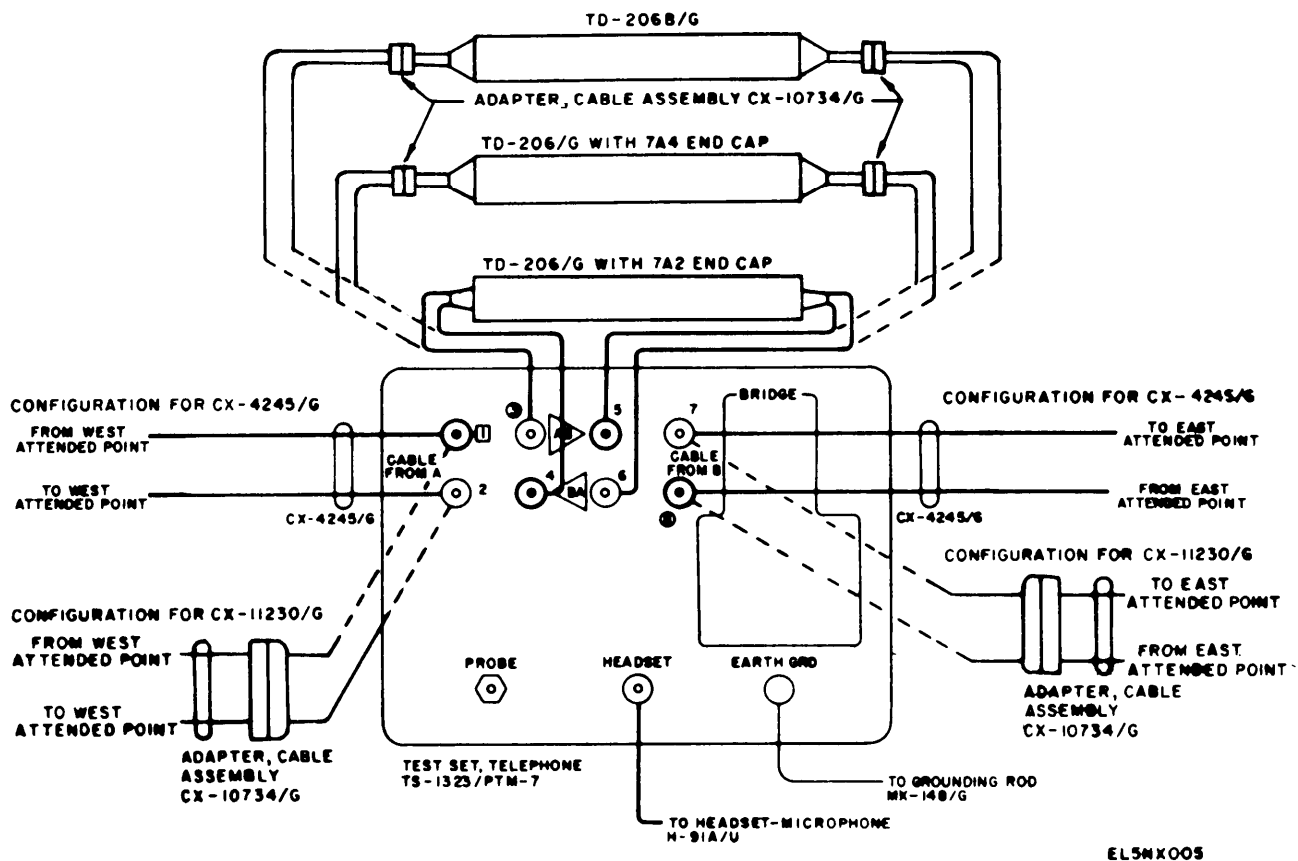

Figure 3-6. Normal connections for order-wire circuit operation and TD-206/G tests.
(2) To connect the TS1323/PTM-7 for order-wire operation at a TD-206/G location, connect the TD-206/G and the two CX-4245/G's to the TS-1323/PTM-7 as shown in figure 3-6.
a. Connect the TD-206/G to the TS-1323/PTM-7 as shown in figure 3-6.
(1) Operate the CABLE POWER or CABLE CURRENT switch to ON.
(2) Operate the NOR OPR-ZERO SETREAD switch to ZERO SET.